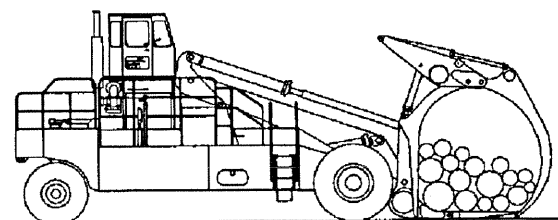

Fig 4-8
1. To unload the carriage for scaling or sorting, leave the carriage level or tilted slightly back. Lower the boom until the carriage is as close to the ground as possible. See Fig. 4-8